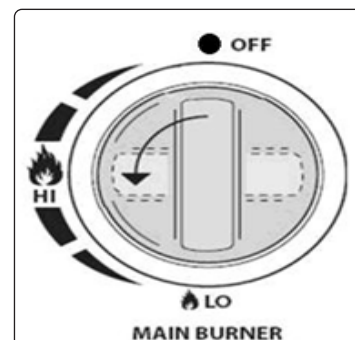

fig.2
- 2. Make sure all gas controls on the barbecue are in the **OFF** position. (See fig.2).